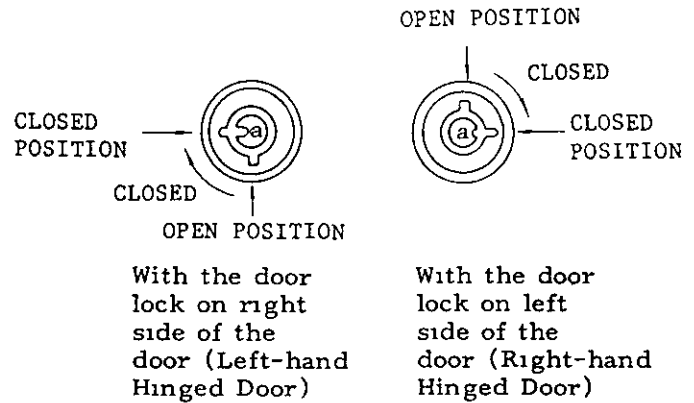

Fig 1 4.2
- B Remove the tape outlet cover (See Fig 1 1 2) by loosening two mounting screws and clean the bottom of the tape tumble box with cloth or brush